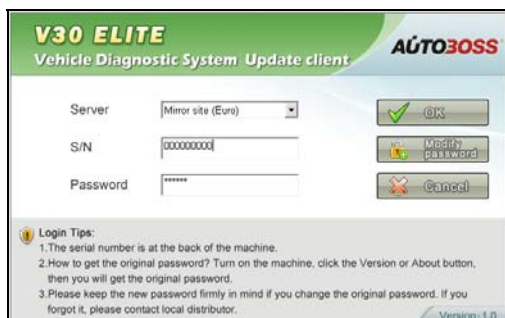

Fig 2-1 Login screen
Step1: Take out the SD card from main unit, plug it into the USB SD card reader and connect to PC. Step 2: Double click to run the **V30 ELITE update client** program on your PC and go to update screen as shown in Fig 2-1.